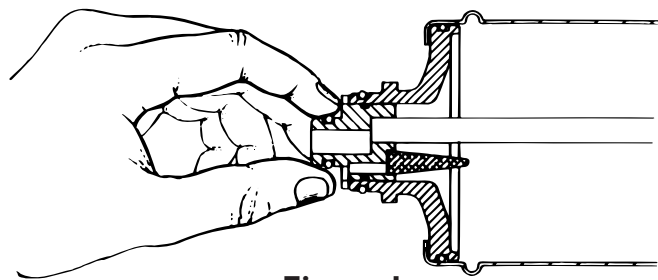

Figure 1
1. Grasp the tip of the outlet tower (center, top of the cartridge and pull out gently (Figure 1). The entire central plug with the long tube attached will come out, leaving a hole as big as your thumb.